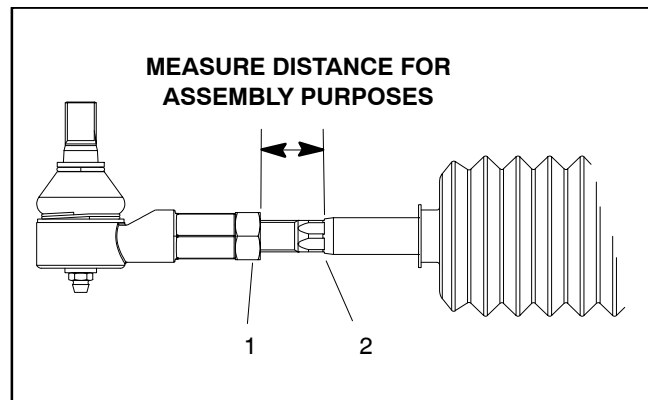

Figure 16
1. For assembly purposes, measure the distance from shoulder on the tie rod track to the location of the tie rod end (Fig. 16). This will help to adjust front wheel toe-in during assembly of steering rack.